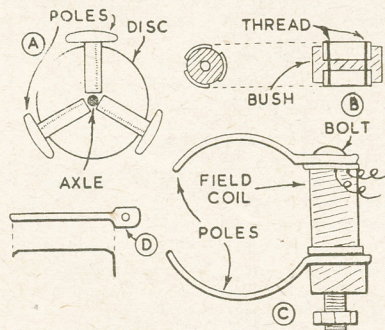

Fig. 1—How the parts are made
The armature has three iron poles spaced at 120 degree intervals round an axle and this part may be made up as shown at (A) in Fig. 1. Each of the poles is a small iron bolt (which may be obtained from an ironmonger's) with the shank sawn off. Dimensions can naturally vary considerably, but it is suggested each pole be $\frac{3}{4}$ in. long. A disc of scrap wood about $1\frac{1}{4}$ ins. in diameter is also cut.
The three poles should now be arranged as shown in Fig. 1, and may be secured to the disc with staples. Also have the axle in position projecting through a hole in the disc and support the whole on blocks so that the axle is vertical.
The brushes are shown at (D) in Fig. 1. They are cut from thin brass or similar metal and have a small hole so that they can be screwed to the wooden base of the finished motor. Remove any rough edges on brushes or commutator segments with a file. Friction will be reduced if the overall diameter of the commutator is not larger than necessary — $\frac{1}{4}$ in. in diameter is a convenient size.